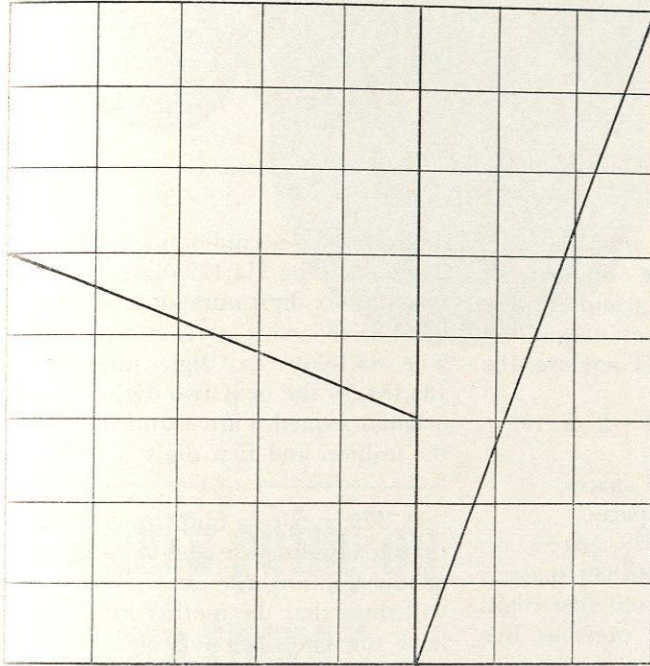
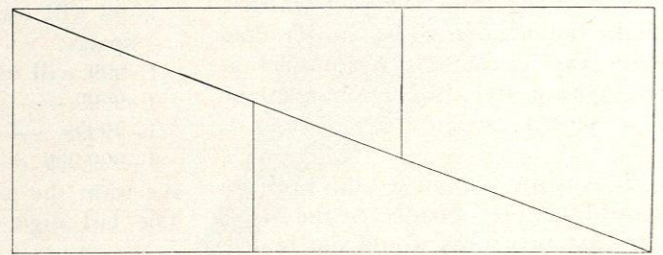

FIGURE 1
FIGURE 2
2) Next we look at the world of plane geometry. If you take a square paper and section it into 64 squares you can divide it as shown in figure 1, and form it as shown in figure 2. However, the rectangle in figure two has an area of 65 units, not 64. Where did the extra unit come from?